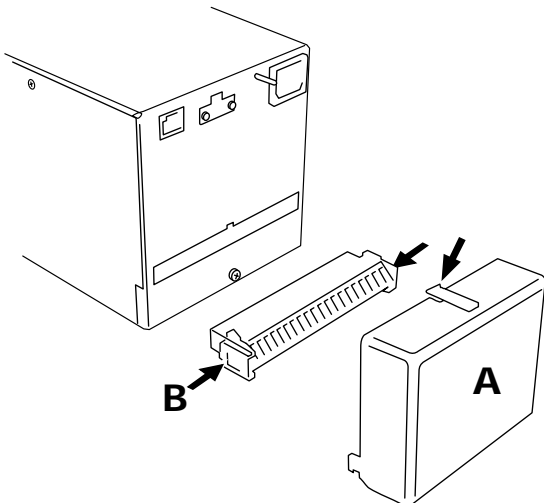

Figure 7.3.2a Remove terminal cover and connector
2. Remove the rear terminal cover (A) by pressing down on the catch and lifting off. Remove the input connector (B), by pressing-in on the end clips and pulling on the connector (figure 7.3.2a).